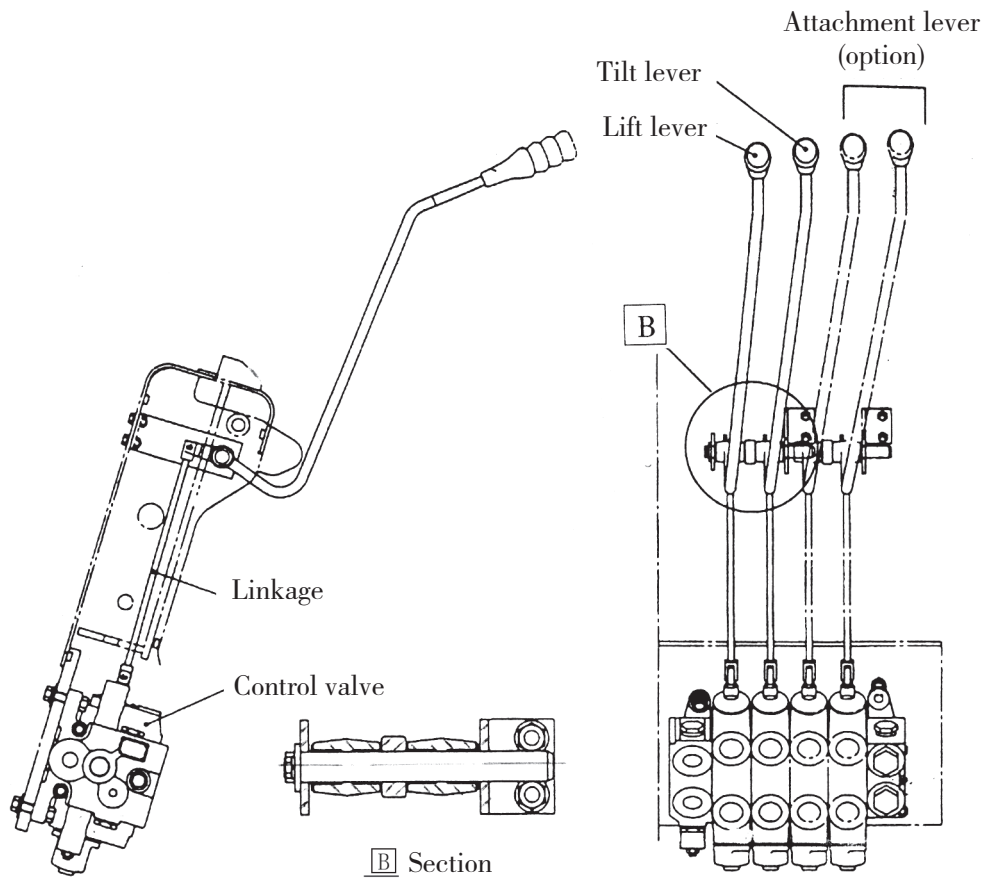

Fig.7.10 Control valve lever unit
7.7 Operation unit of the control valve (refer to the fig. 7.10)